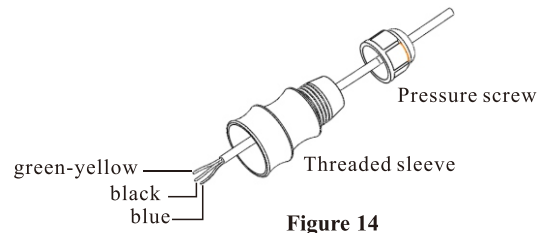

Figure 14
Step1: Put the threaded sleeve and pressure screw through the AC wire (See figure 14).